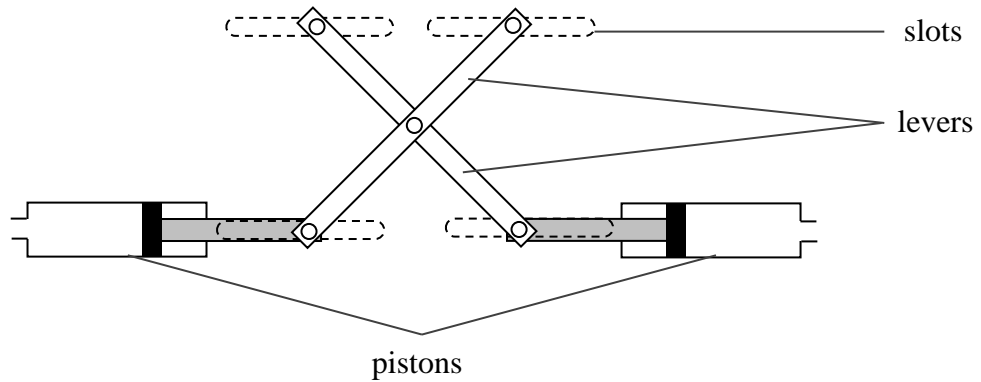

Figure 4: Pneumatic system driving the lift
d) **Figure 4** shows a schematic diagram of the pneumatic system which makes the lift move.
i) On **Figure 4** add **TWO** arrows to show the direction of the inputs of the pneumatic system for the lift to go up.
ii) In the space provided redesign the system shown in **Figure 4** so as to use fewer components.